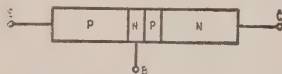

Fig. 1—Hook transistor—bias is same as for p-n-p junction transistors.
**A**N unusual four-region transistor available now in small quantities is the hook transistor. This device (Fig. 1) is just like the junction transistor except for unusual construction of the collector.